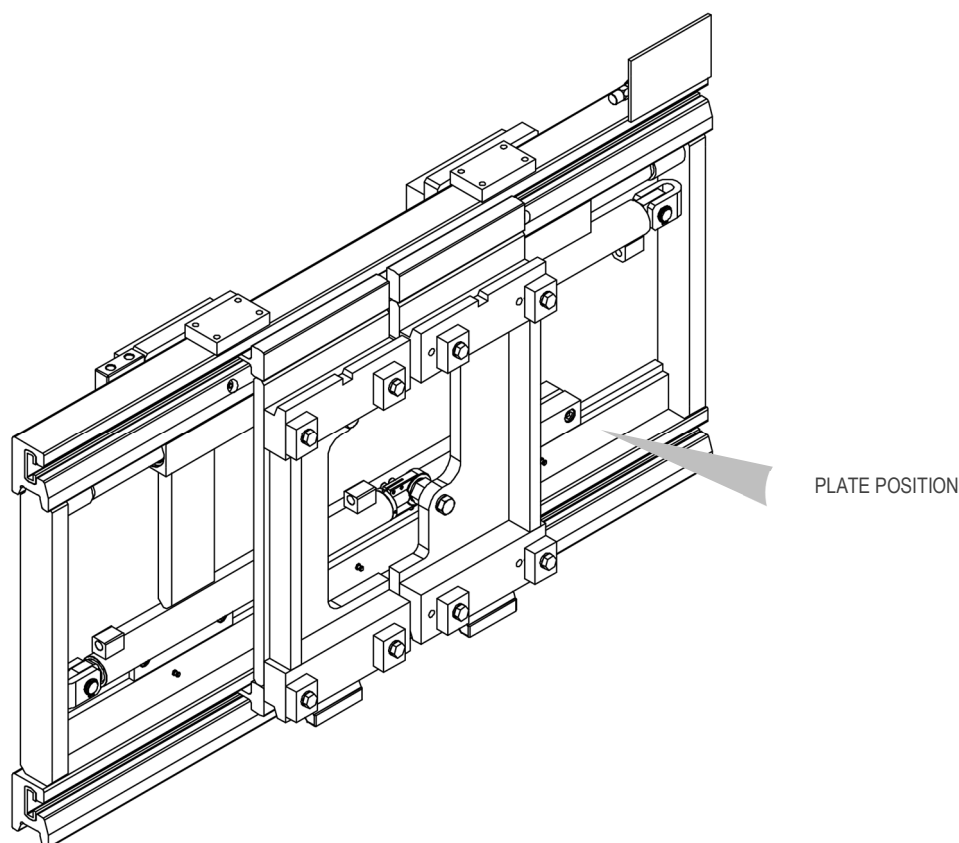

Figure 1
All the A.T.I.B. equipment - "FORK POSITIONER TYPE 678 | 679 | 688 | 689 | 579" is identified by an adhesive plate (see *Table 1*) positioned on the equipment (the position of the identification plate may vary depending on the equipment, see *Figure 1*). Always refer to the serial number.
8. Connect the hydraulic circuit, making sure that the operating pressure of the lines is greater than or equal to that indicated on the identification plate (see *Figure 1* and *Table 1* on page 8).
14. Connect the hydraulic circuit, making sure that the operating pressure of the lines is greater than or equal to that indicated on the identification plate (see *Figure 1* and *Table 1* on page 8).